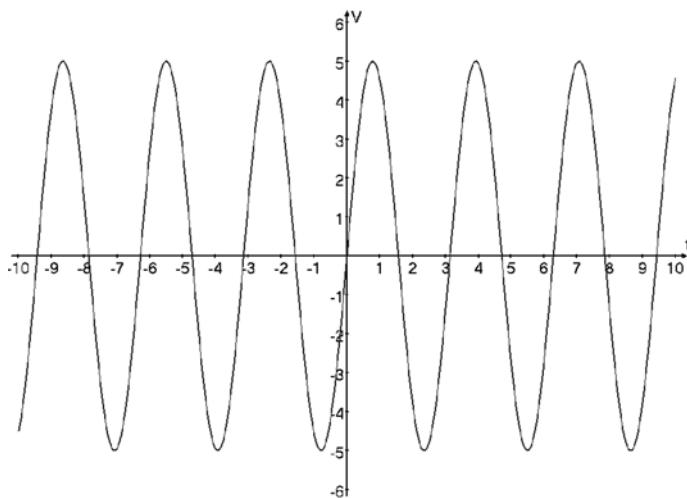
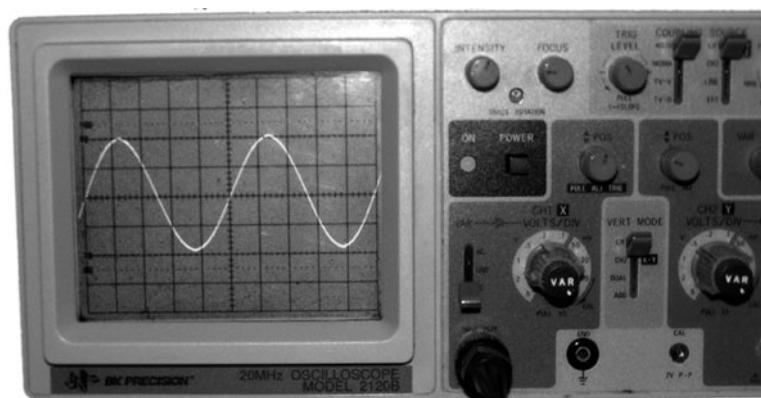

Fig. 10-2. 5-volt sinusoidal signal.
Fig. 10-4. Oscilloscope.
Simple DC has its place, but most circuits are going to involve changes in their current and voltage. The stereotypical changing current, or *alternating current (AC)*, is the sine wave (Fig. 10-2). The sine is the most efficient waveform for power transmission. The electricity in your walls is in this shape.
Measuring resistance is done with an inexpensive multimeter, like the one shown in Chapter 5. That same meter does a fine job of measuring DC voltage and AC RMS voltage. What it won't do is give a picture of the voltage levels over time. A far more expensive tool does this, the *oscilloscope* (Fig. 10-4).
Where calculated diagrams like Figs. 10-2 and 10-3 can show us the math and the theory of the circuit, oscilloscopes show us a representation of what is actually happening. They are invaluable tools for the electronics workbench, with their only downside being their price. A basic oscilloscope like the one pictured in Fig. 10-4 costs \$400 or so, with the better models starting at \$1,000 and the best models costing as much as a small car.